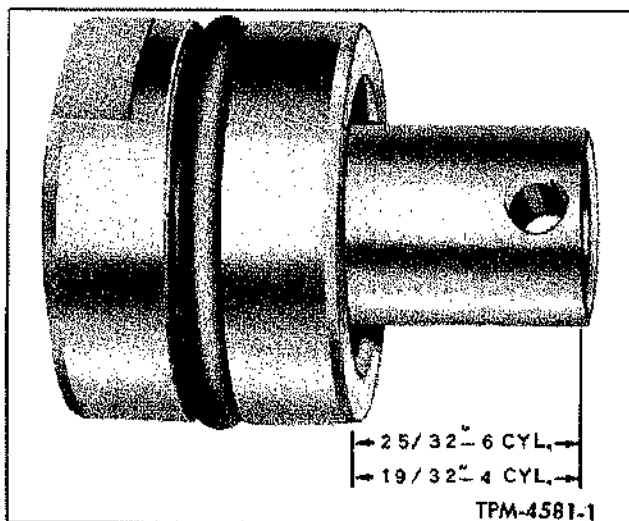

Figure 64—High Speed Piston Preliminary Setting
6. If sleeve and piston have been separated they should be threaded together until a preliminary measurement of $\frac{25}{32}$ " for 6-71 or $\frac{19}{32}$ " for 4-71 engines is obtained (fig. 64).
4. Measure distance from end of piston to end of sleeve (fig. 64). This dimension should be approximately $2\frac{5}{32}$ " for 6-71 or $1\frac{1}{2}$ " for 4-71 engines.
5. Should it be necessary to increase engine RPM the dimension, shown in Figure 64, should be increased. Also, when necessary to decrease engine RPM the dimension, shown in Figure 64, should be decreased. NOTE: Each full turn of piston and sleeve will change engine approximately 100 RPM.